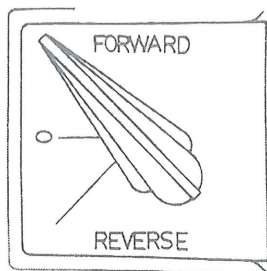

Figure 9
- a. Power to the motor is controlled by a three way switch, forward, reverse, and off (Fig. 9). When the high-low speed change lever (Fig. 3 (J), Page 3) is in high gear position and the switch is in FOR., the spindle rotation is clockwise. When the switch is in REV., the rotation is counter clockwise.